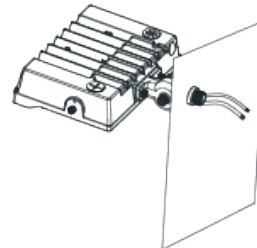

figure 1.5
Step 3: Loosen screws; Adjust fixture angles as per actual demands and tighten screws later; Angles of the fixture are adjustable(pass the bracket through mounting surface, secure it with screws, then connect the wires as per proper wiring requirements). (figure 1.5)